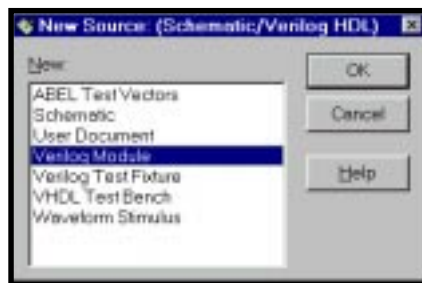

Figure 3-26. New Source Dialog Box
1. Choose **Source** ⇒ **New** from the menu bar. The New Source dialog box appears (Figure 3-26). The project type Schematic/Verilog HDL is shown in the title bar of the dialog box letting you double check your project type before creating the source files.